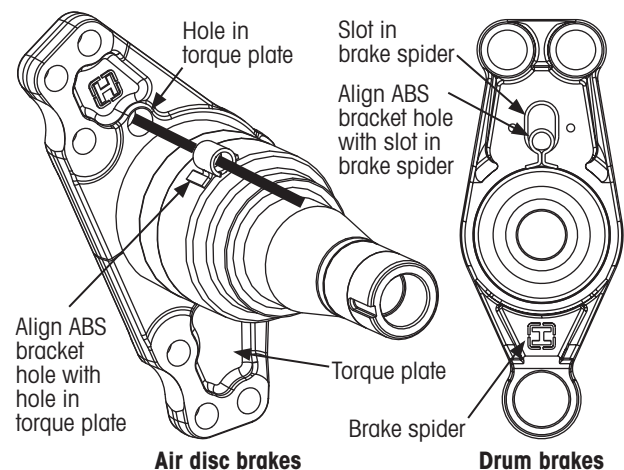

Figure 2: Aligning ABS bracket with brake spider slot
- To position the ABS bracket around the outside diameter of the axle (Figure 2), **align** the center of the ABS bracket hole with the center of the slot in the brake spider or with the center of the hole in the torque plate.